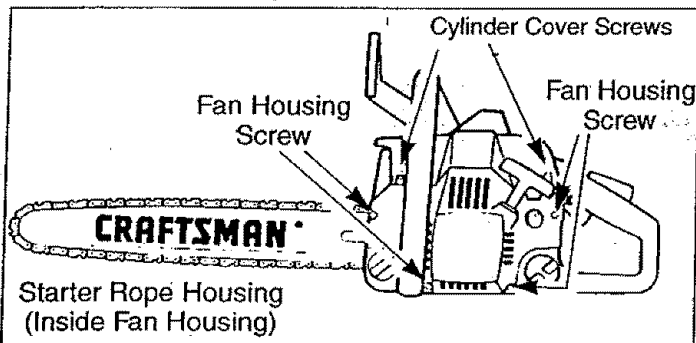

Figure 44
## STARTER ROPE REPLACEMENT (Fig. 44, 45, 46, 47 & 48)
- Reinstall the 4 fan housing screws and tighten the 2 cylinder cover screws. Figure 44.